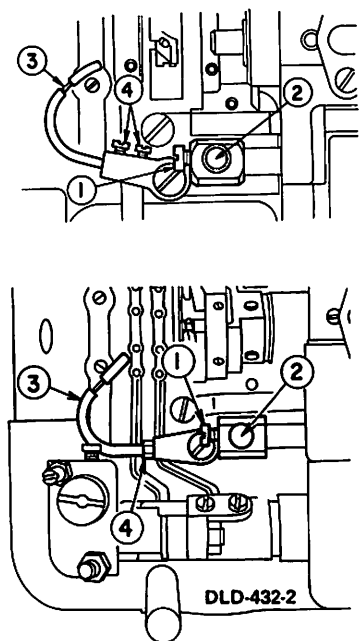
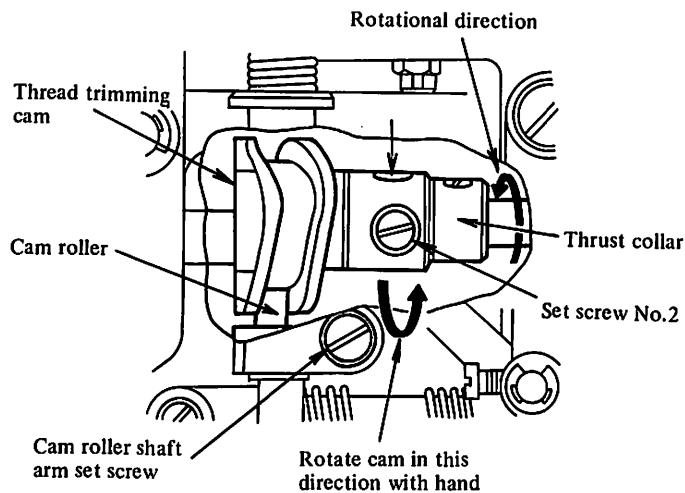
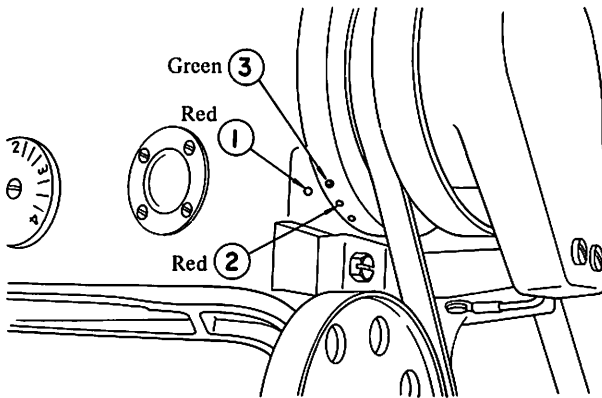
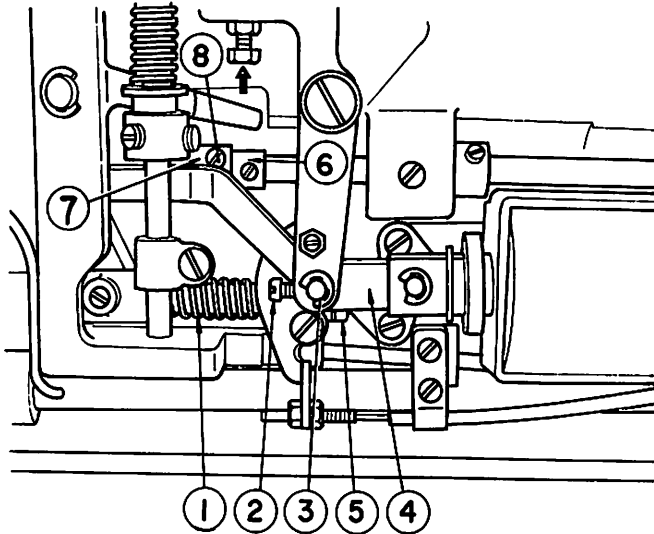

Fig. 16
Fig. 17
Fig. 18
Fig. 20
Tilt the machine, turn the hand wheel with your hand until the thread take-up comes just before the upper dead point and if the sewing hook presser (Fig.16 ③) is pushed deeply to right, the cam roller (Fig.17) will enter the cam groove of the cam (Fig.17) and will be interlocked there. In that condition, rotate the hand wheel in the reverse direction than the conventional way, and the hand wheel will come to a point where it will not rotate any more. At this point if cam timing is matched so that the indicated line of the arm (Fig.18 ①) and the indicated line of the hand wheel (Fig.18 ②) are matched together as shown in Fig.18, it becomes a cotton thread timing. But if the indicating line (Fig.18 ①) is matched with the indicating line (Fig.18 ③), it becomes a timing for synthetic thread.
First, loosen the 2 set screws of the trimming cam (Fig.17) in order from set screw No.1 and No.2, and match the indicating line of the arm with the indicating line of the hand wheel. (For cotton thread, match red color ① with the red color ② and for synthetic thread, red color ① with the green color ③), (Fig.18)
Then, by pushing the sewing hook presser (Fig.16 ③) to right, interlock the cam and the cam roller, and without rotating the hook shaft, rotate the cam only toward the reverse direction than the normal hook shaft rotational direction with your finger tips. At the position where the cam does not rotate any more, push the cam against the thread trimming cam thrust collar (Fig.17) and finally tighten the cam set screws (Fig.17) in the order of No.2 and No.1.
This is adjusted by changing the right or left position of the moving knife shaft (Fig.20 ①) when the machine stops. By this adjustment, the interlocking of the cam and the cam roller also changes, so match the position of the thread trimming cam toward the shaft direction, also.
- a. First, loosen the magnet set screw (Fig.20 ②) and pull out the magnet link pin (Fig.20 ③).
- b. Move the magnet link (Fig.20 ④) downwards and adjust the screwed-in amount of the knife moving shaft adjusting nut (Fig.20 ⑤). If this nut is screwed in deep, the retreating range of the knife becomes greater and if it's loosened, the range gets less.
- c. Loosen both set screws of trimming cam ⑦ and the thrust collar ⑥.
(In case of cotton thread, match ① with ② of Fig.18 and for synthetic thread, match ① with ③)
- e. Rotate the set screw No.2 (Fig.20 ⑧) (indicated point) of the trimming cam so that it comes to front and when it comes to front, push the sewing hook presser to right.
- h. Temporarily tighten the set screw No.2 ⑧ of the cam.
- i. Tighten the lock nut. (Fig.20 ⑤)
- ① Is the indicating line of the pulley matched?
- ② Is the roller inserted smoothly into the cam groove?
- ③ Is the retreated range of the moving knife 2~2.5mm?
At the position where the take-up has come just before the upper dead point, lower the presser foot and when the hook thread presser (Fig.16 ③) is pushed hard to right, verify that the floating range of the second thread tension disc is 0.5~1mm.